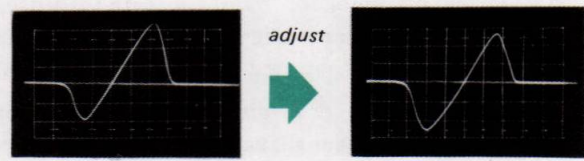
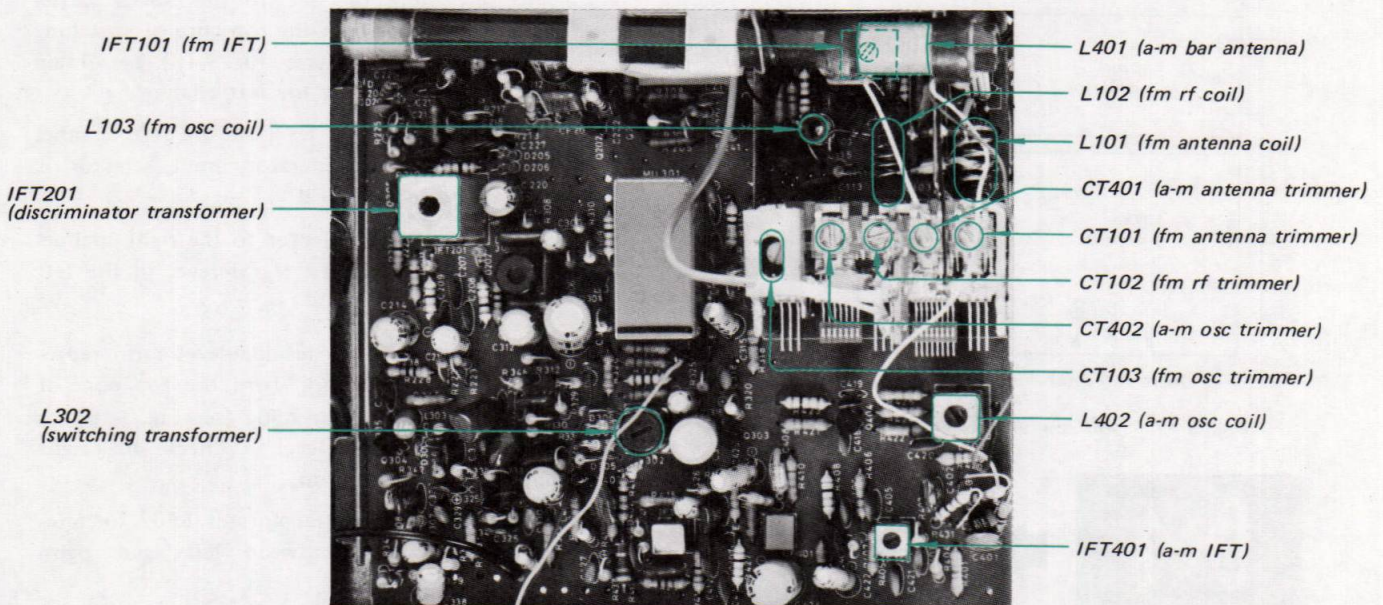
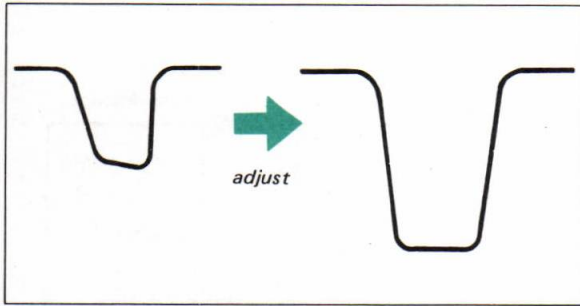
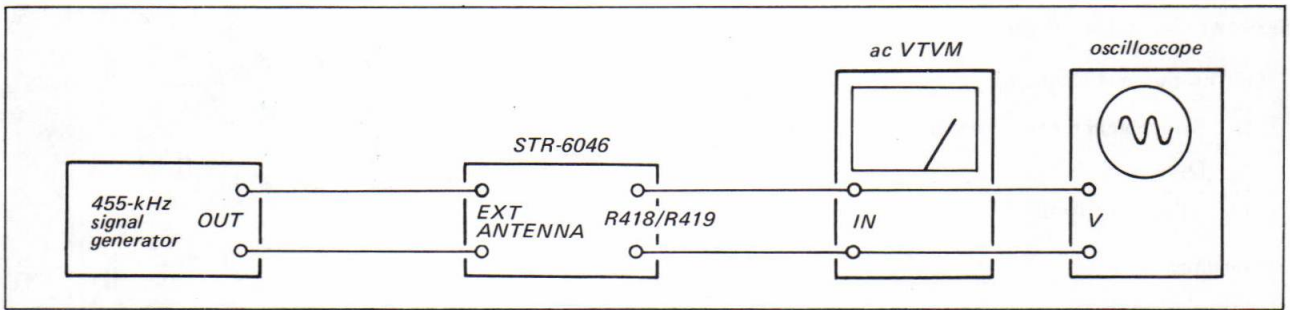

Fig. 3-6. "S" curve response
Fig. 3-10. Adjusting parts location
Fig. 3-16. A-m i-f response
Fig. 3-17. Test setup for a-m i-f alignment by rf signal generator
4. Turn the top core (secondary side) of discriminator transformer IFT201 (see Fig. 3-10) with an alignment tool to obtain the "S" curve response, and equalize the positive and negative peaks of the "S" curve response, as shown in Fig. 3-6.
5. Adjust i-f transformer IFT101 (see Fig. 3-10) and primary side of discriminator transformer (IFT201 bottom core) to obtain a maximum-amplitude "S" curve response.
- If the discriminator transformer IFT201 (see Fig. 3-10) is not aligned correctly, 400-Hz ripple will be observed as shown in Fig. 3-8.
- Turn the core of fm IFT101 (see Fig. 3-10), and the primary side of discriminator transformer IFT201 to obtain the maximum output.
2. Precisely tune the set to the SSG's carrier frequency then turn the top core of switching transformer L302 (see Fig. 3-10) to obtain maximum output at the left channel.
5. The output-level to residual-level ratio represents the separation. Turn the top core of switching transformer L302 (see Fig. 3-10) for minimum residual level. Check the right channel for separation.
5. Turn the top core of a-m IFT401 (see Fig. 3-10) to obtain a maximum and symmetrical response as shown in Fig. 3-16.
3. With the equipment connected as shown in Fig. 3-17, turn the top core of a-m IFT401 (see Fig. 3-10) to obtain the maximum output.